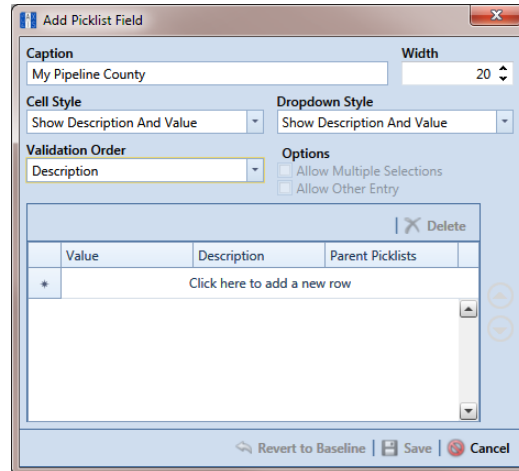

Figure 3-49. Add Picklist Field
- 5 When the dialog box *Add Picklist Field* opens, set properties and add data items for the child picklist in the following manner (Figure 3-49, page 95):